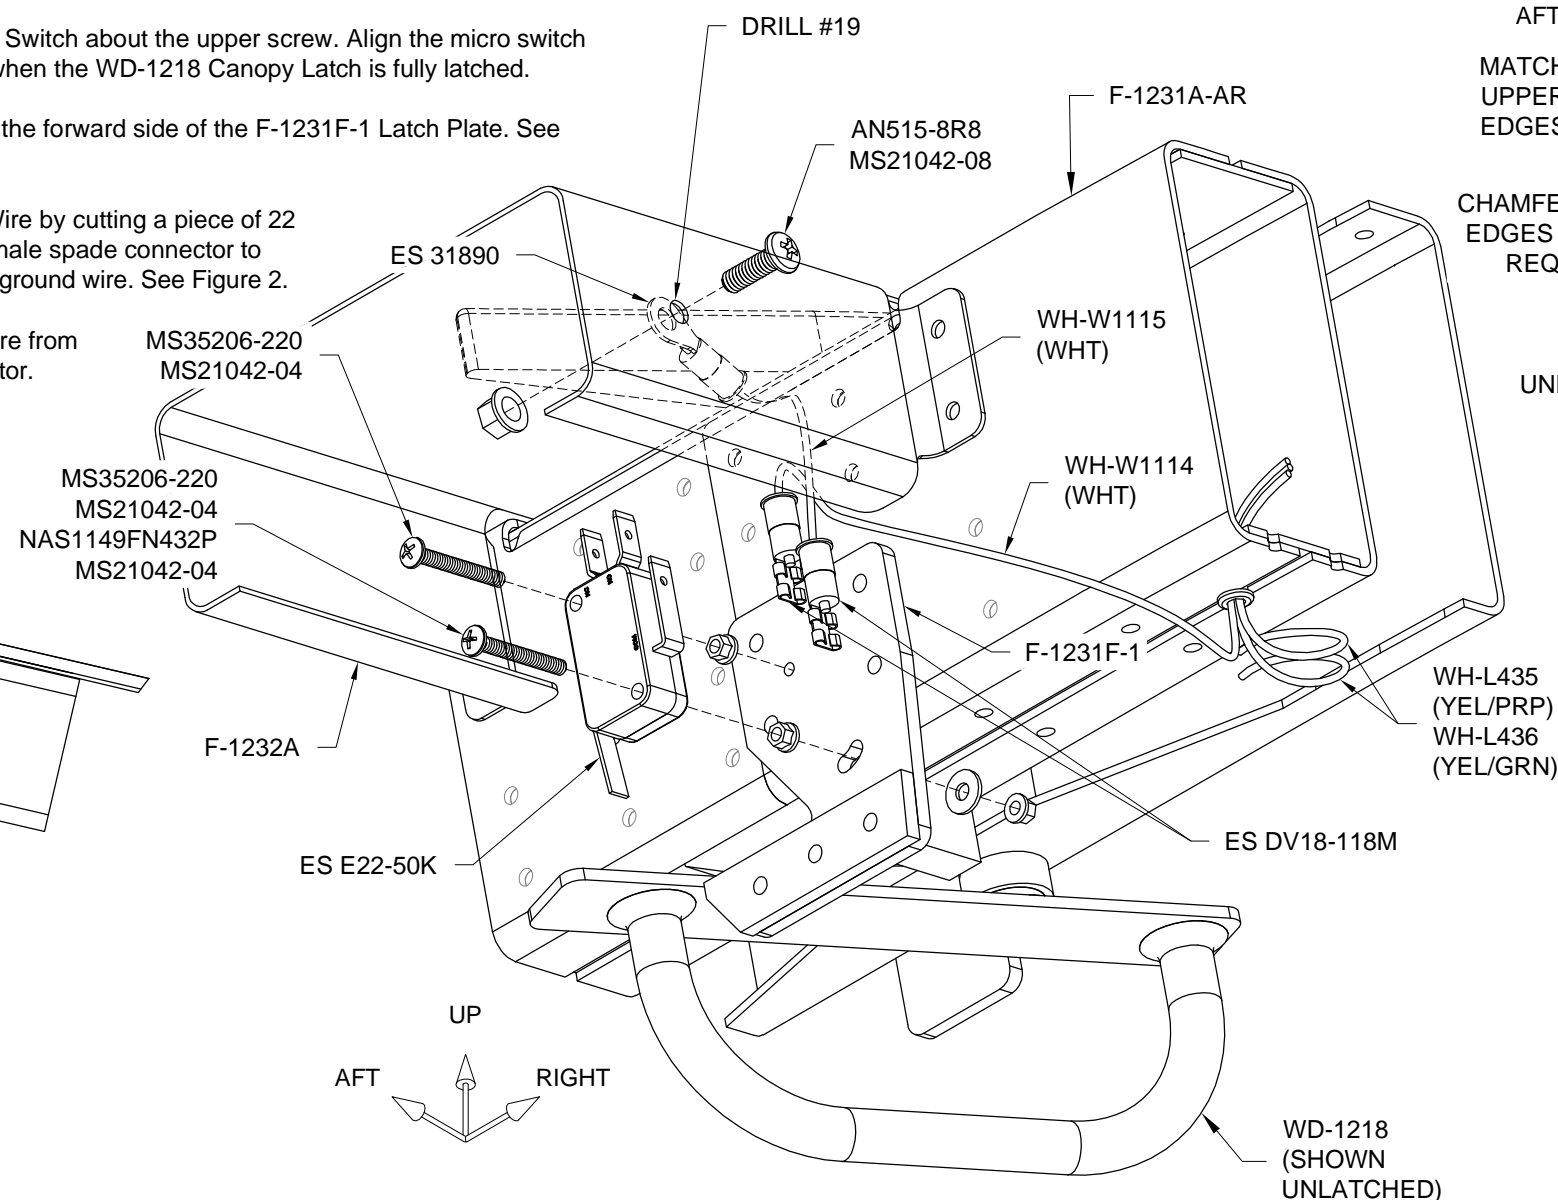

FIGURE 2: INSTALL CANOPY LATCH SWITCH
Step 7: Connect the spade connector end of the WH-W1114 (WHT) Canopy Latch Switch Terminal Wire to the N.O. (normally open) terminal of the ES E22-50K Micro Switch. See Figure 2 and Detail B.
Connect the spade terminal end of the WH-W1115 (WHT) Canopy Latch Switch Ground Wire to the COM (common/ground) terminal of the micro switch. See Figure 2 and Detail B.
Install the ring terminal end of the WH-W1115 (WHT) Canopy Latch Switch Ground Wire on the inboard side of the roll bar brace as shown in Figure 2.